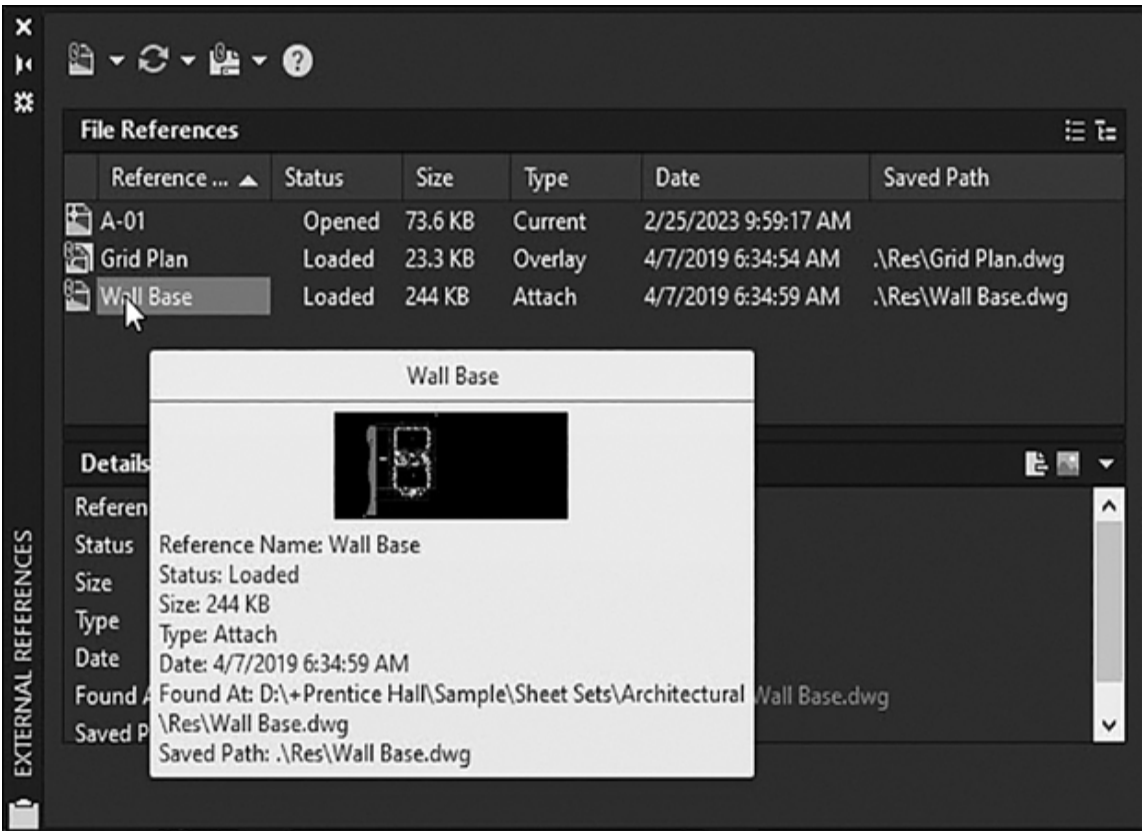

Figure 17-3
- **Tooltip Style** Allows you to set the tooltip style shown when you hover your mouse pointer over a reference name to display either the file name of the reference, a graphical preview in one of three sizes, or a list of details as shown in Figure 17-3